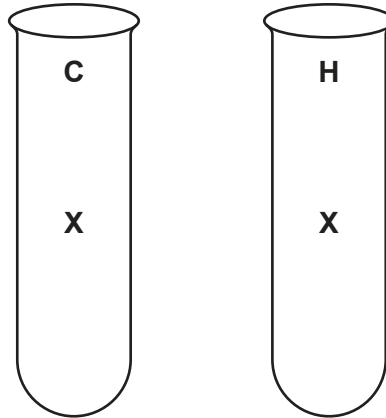

Fig. 1.1
- Step 1 Label one test-tube **C** and the other test-tube **H**. Draw a small **X** on the outside of both test-tubes approximately half-way down each test-tube as shown in Fig. 1.1.